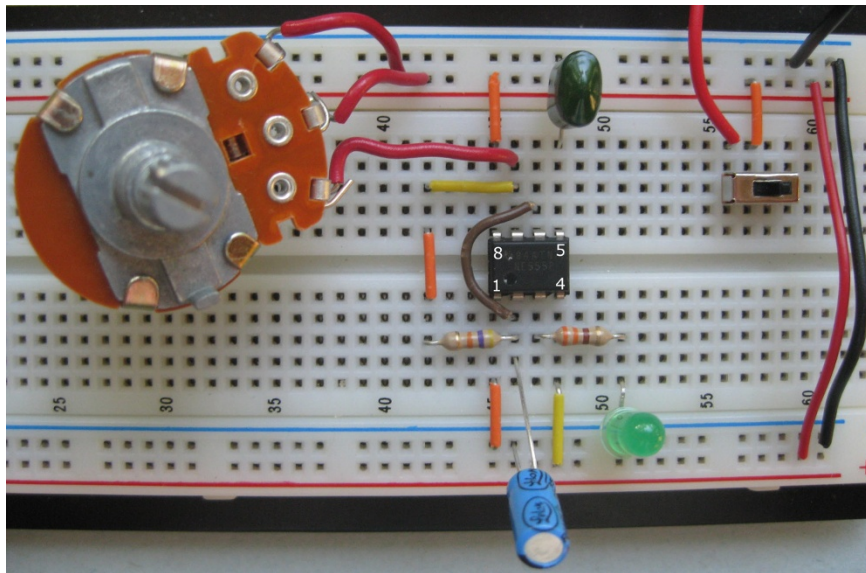

Figure 17-2: An LED flasher with parts mounted on a solderless board. (555 timer IC pin labels have been added.)
To see whether the light blinks at about the rate your calculations say it should, build the LED flasher circuit and try it out! Use Figure 17-2 as your guide. If this is the first circuit you're building, you may want to follow the detailed instructions in this section.
You can make it easier to use battery power when you build a circuit on a breadboard using just a switch and a few wires, as shown in Figure 17-2. Use a single-pole, double-throw (SPDT) switch to connect the positive battery terminal to the top positive supply rail (in Chapter 4, I explain this process in detail). Then connect the positive supply rails on top and bottom using a red wire, and the negative supply rails on top and bottom using a black wire, so that power is available on both the top and the bottom of the board.
3. Insert the two fixed resistors, *R2* and *R3*, into the board, following the schematic and the sample breadboard in Figure 17-2.
4. Insert the two capacitors, *C1* and *C2*, into the board, following the schematic and the sample breadboard in Figure 17-2.
As noted in Chapter 11, the pins on IC chips are numbered counter-clockwise, starting at the clocking notch. If you’ve placed the 555 timer IC with the clocking notch facing the left side of the board, the pin connections are as shown in Figure 17-2.
Use the sample breadboard shown in Figure 17-2 as a guide to making these jumper-wire connections.